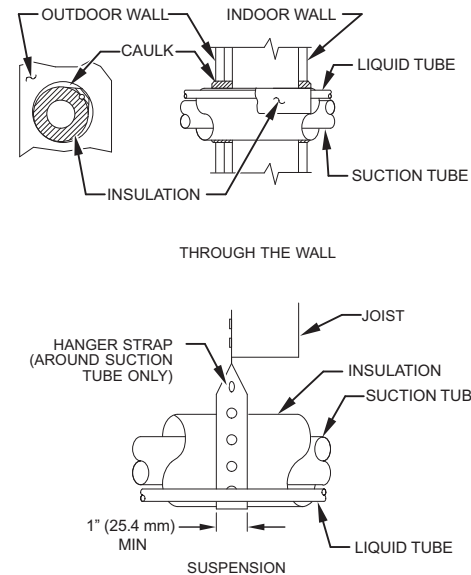

Fig. 1 - Connecting Tube Installation
5. When passing refrigerant tubes through the wall, seal opening with RTV or other pliable silicon-based caulk. (See Fig. 1.)
7. Do not suspend refrigerant tubing from joists and studs with a rigid wire or strap which comes in direct contact with tubing. (See Fig. 1.)
9. When necessary, use hanger straps which are 1 in. (25.4 mm) wide and conform to shape of tubing insulation. (See Fig. 1.)